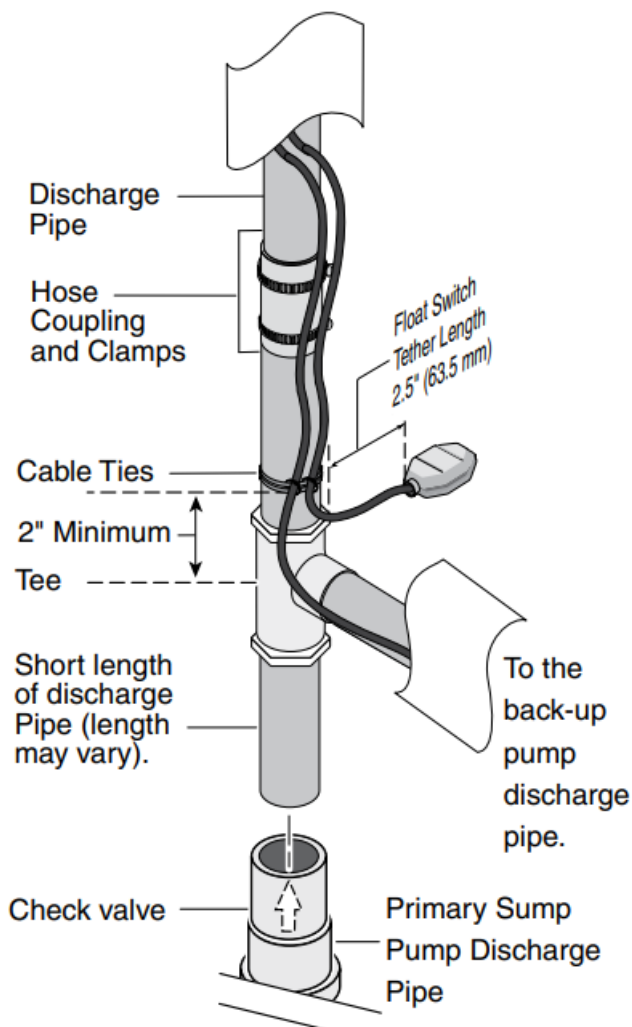

Figure 6 – Back-up pump float switch tether length and discharge pipe
10. Install a short length of pipe into the top of the check valve in the primary pump discharge. See Figure 6.
13. Glue the cut off piece of pipe into the top of the reducer bushing in the top of the tee. Mount the float switch assembly (Key No. 7) loosely to the discharge pipe with the cable ties (Key Nos. 7A & 7B). See Figure 6. Approximately 2.5" (63.5 mm) of cord length should be left between the float and the clamp. Do not tighten the cable ties. Adjustments may be needed later.
7. Mount the back-up pump float switch assembly (Key No. 7) loosely to the discharge pipe with the cable ties (Key Nos. 7A & 7B). See Figure 6, on Page 6. Approximately 2.5" (63.5 mm) of cord length should be left between the float and the clamp. Do not tighten the cable ties. Adjustments may be needed later.